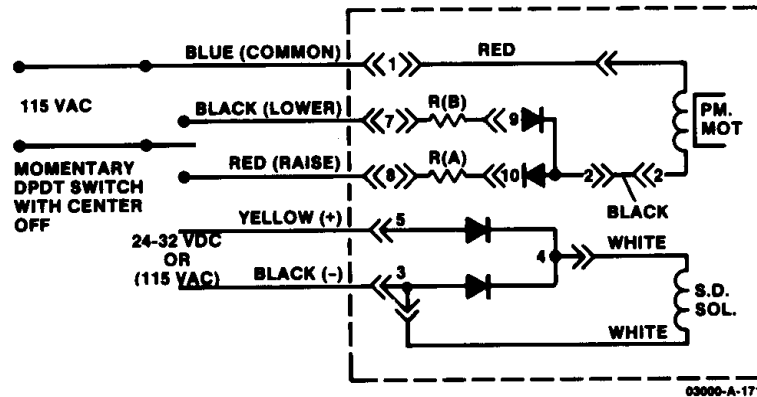

Figure 6. Wiring Schematic for the 115 Vac PM Speed Setting Motor
2. PM (Permanent Magnet) Speed Adjusting Motor (see Figures 6 and 7), with a Shutdown Solenoid as an option, in a weatherproof or explosion-proof housing